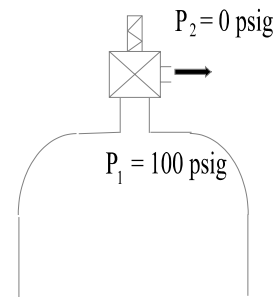

Fig. F-15
- F-16** A relief valve is installed on a pressure vessel as shown in Fig. F-15. The entrance to the valve is 4.5 in. diameter and the exit (which discharges to the atmosphere in the horizontal direction,  $90^\circ$  from the entrance) is 5 in. diameter. The loss coefficient for the valve is 4.5 based on the velocity at the valve inlet. The fluid in the tank is a liquid, with a density of 0.8 g/cc.. If the valve opens when the pressure at the valve reaches 100 psig, determine: